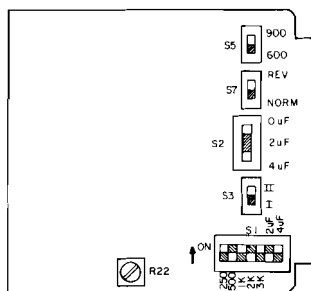

figure 5. Option switch locations
3.06 Five option switches must be set before the 6041 is placed into service. The location of each control on the module's printed circuit board is shown on figure 5. After these options are selected, no further alignment of the 6041 is required.